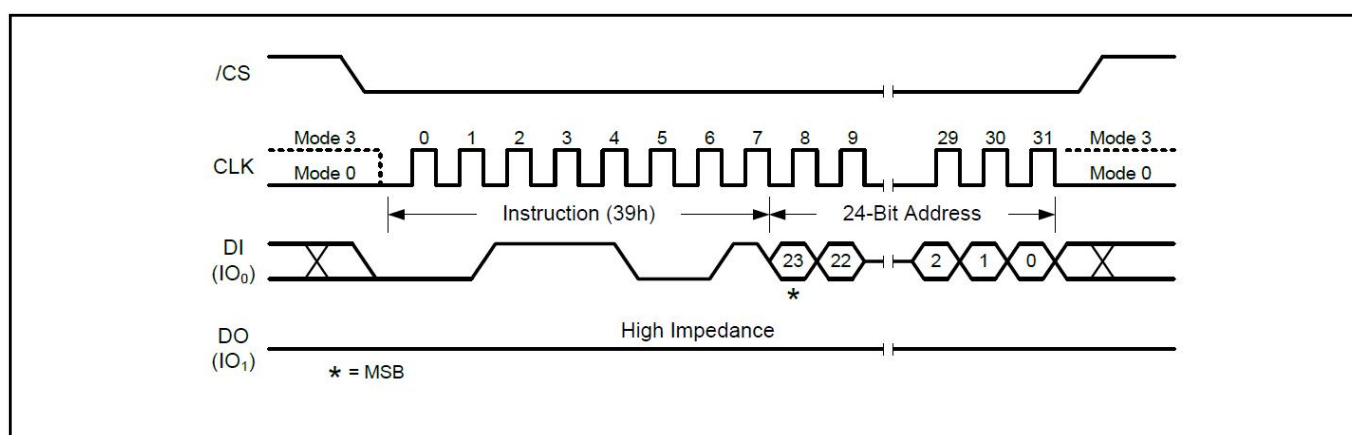

Figure 37. Individual Block Unlock Instruction for SPI Mode
To unlock a specific block or sector as illustrated in Figure 37, an Individual Block/Sector Unlock command must be issued by driving /CS low, shifting the instruction code “39h” into the Data Input (DI) pin on the rising edge of CLK, followed by a 24-bit address and then driving /CS high.